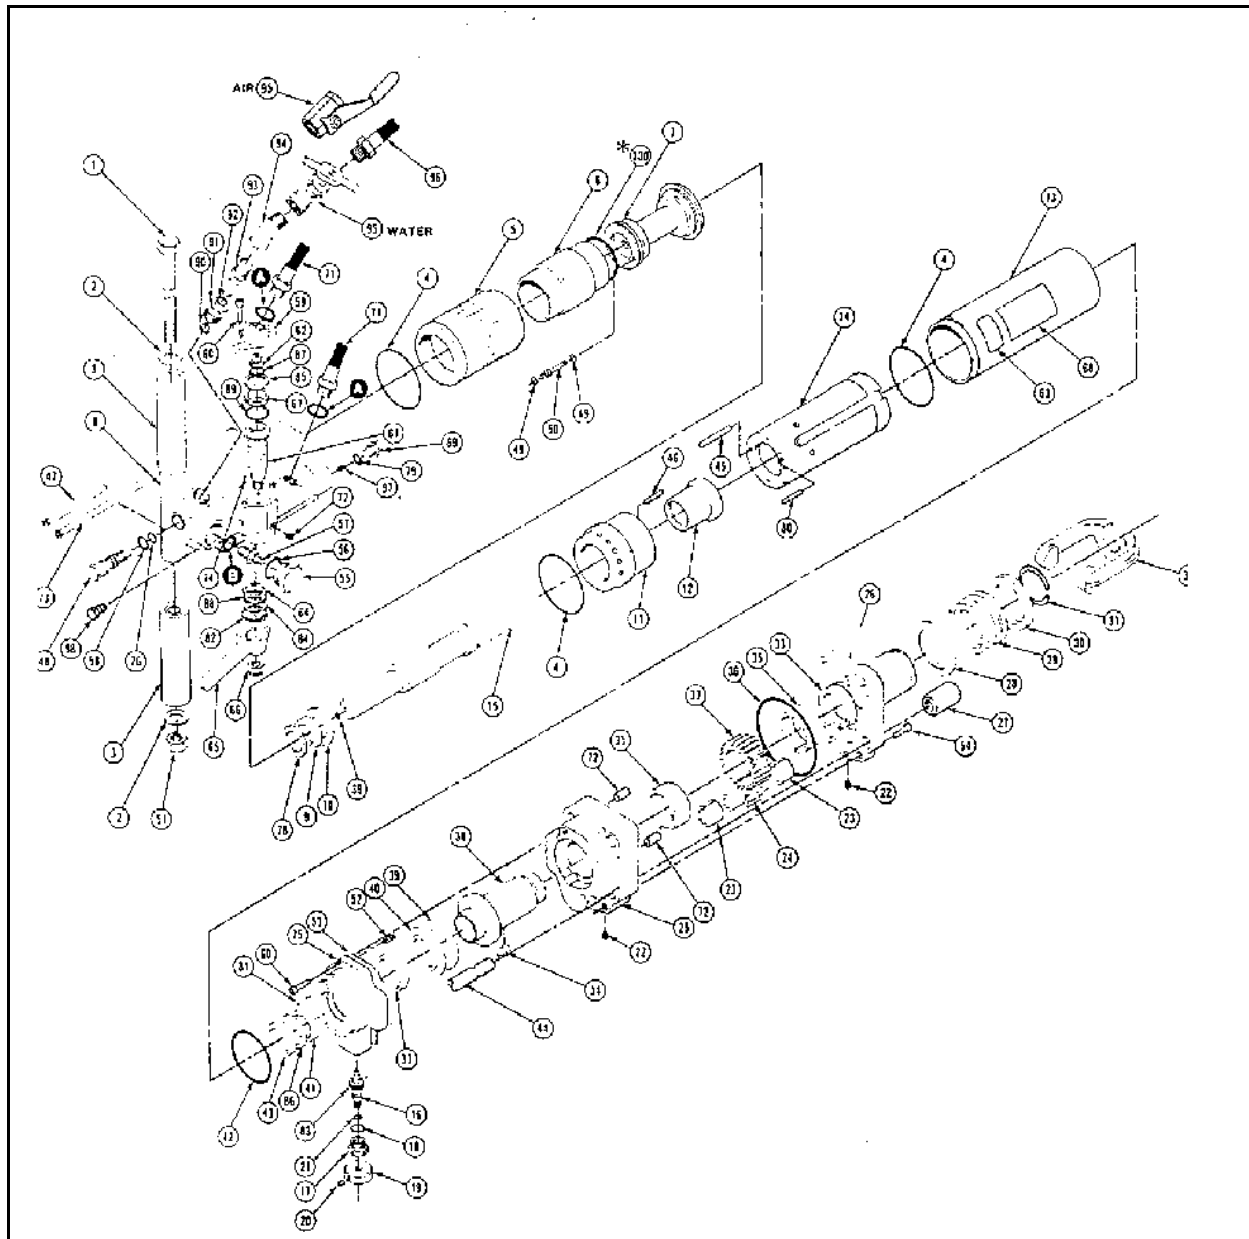

Figure W-3. Hydraulic Sinker Drill Exploded View.
- a. Figure W-3, Sinker Drill Exploded View.